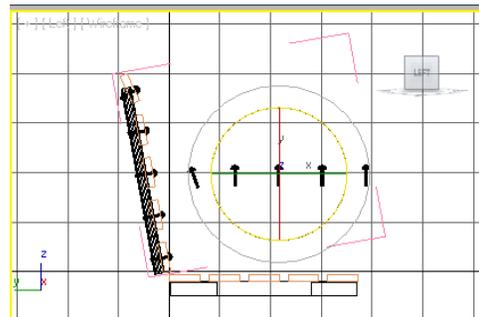

Figure 2-82 Rotating the *right side seat rivets* group in the Left viewport
8. Choose the **Select and Rotate** tool and select *right side seat rivets* in the Left viewport. Then, move the cursor over the Z-axis. Now, press the left mouse button and drag the cursor in the counterclockwise direction to rotate *right side seat rivets* until the angle of rotation in the **Z** spinner becomes **80**, refer to Figure 2-82.